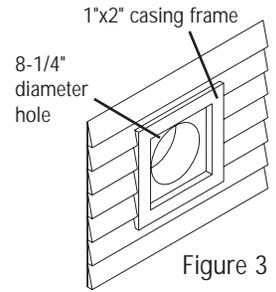

Figure 3
5. Cut out the square hole. – ONLY CUT THE EXTERIOR WALL SIDING DO NOT CUT THE SHEATHING UNDERNEATH. (fig 3)